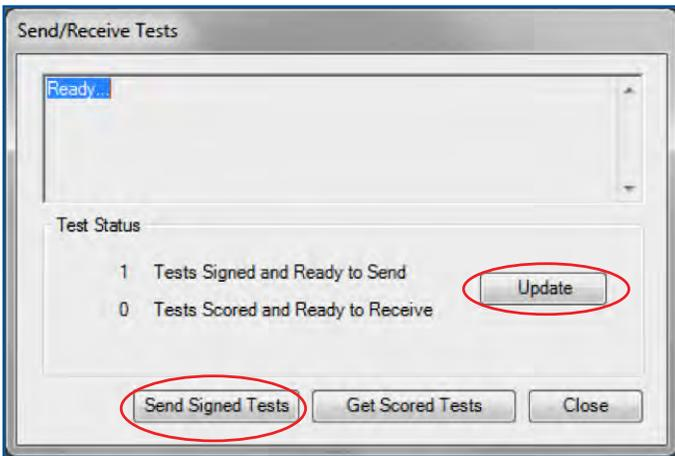

FIGURE 2.17 - Send/Receive Tests Window - “Update” and “Send Signed Tests” Buttons
2. Click “Update” and then “Send Signed Tests” (Figure 2.17).